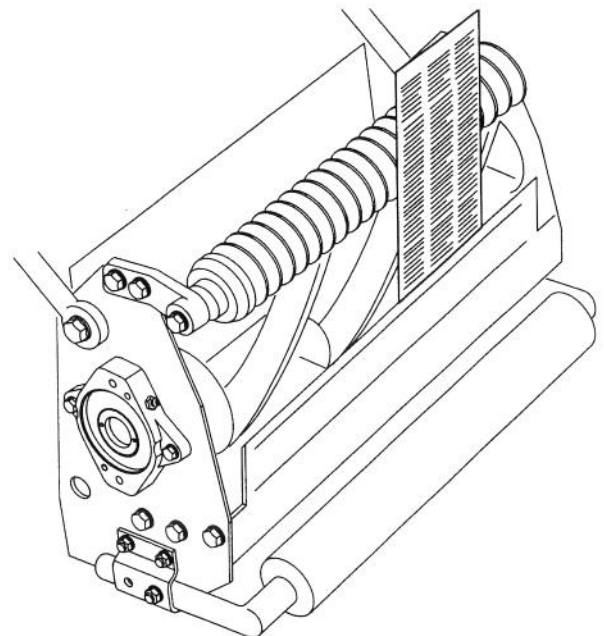

Figure 2
2. Tip cutting unit rearward to gain access to the reel and bedknife (Fig. 2).